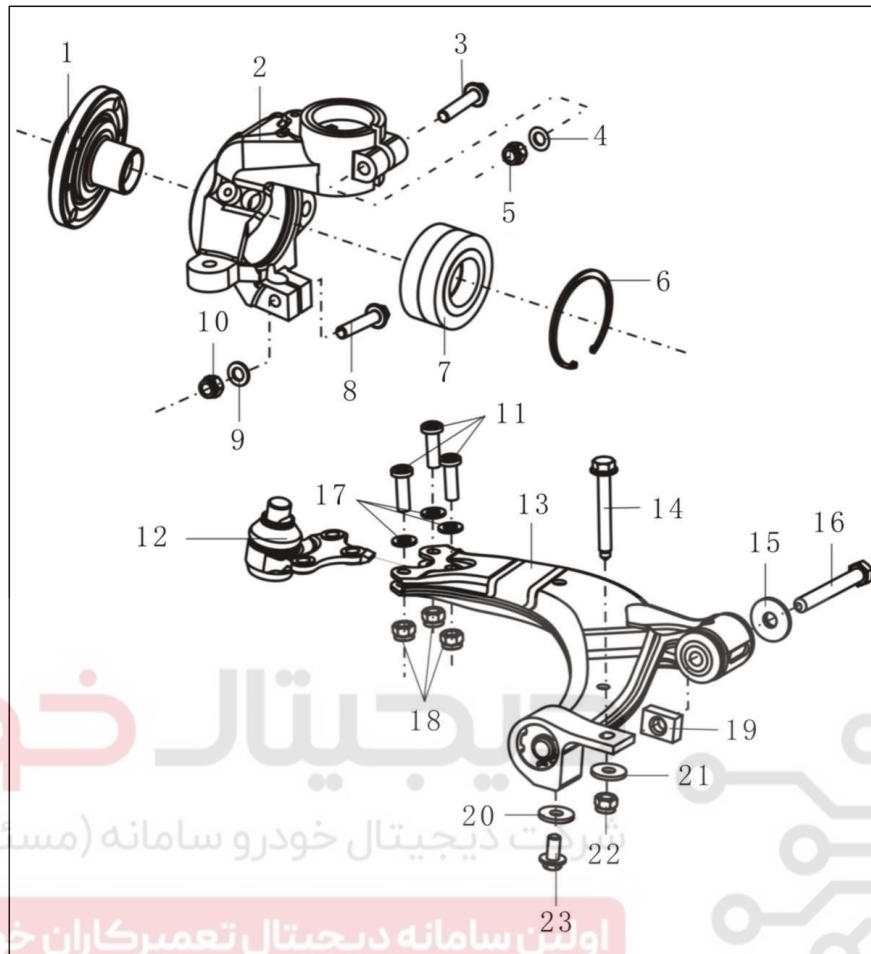

Figure 4-9 Exploded View of Relation Between Rocker and Steering Knuckle
(7) As indicated in Figure 4-9, screw off the elastic hinge fixing bolt 14 and 23 on rocker arm and subframe, remove the bolt 16, and then remove the rocker arm.
Inspect the rocker arm elastic hinge and lifting eye hinges and sleeve (See Figure 4-9). If the aperture becomes large or is deformed obviously, it is necessary to replace it with a new one.